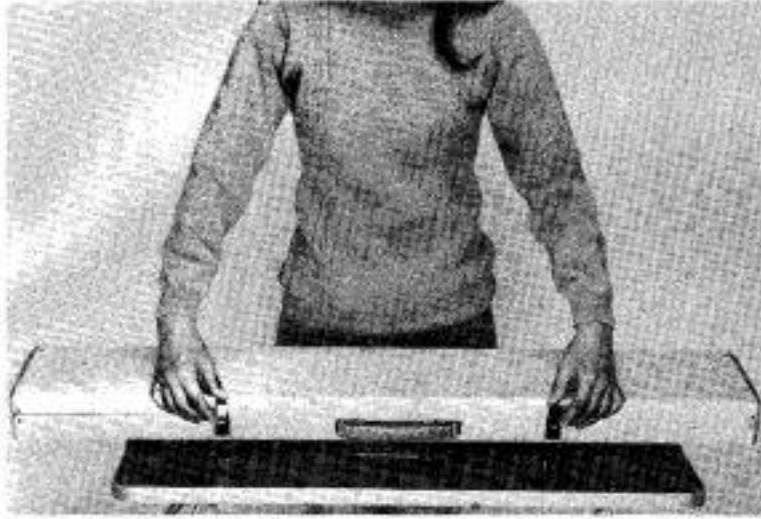

Fig. 5
1. Place the machine on a firm table with the name plate uppermost and the carrying handle to the back, and unfasten both clasps. (Fig. 5)